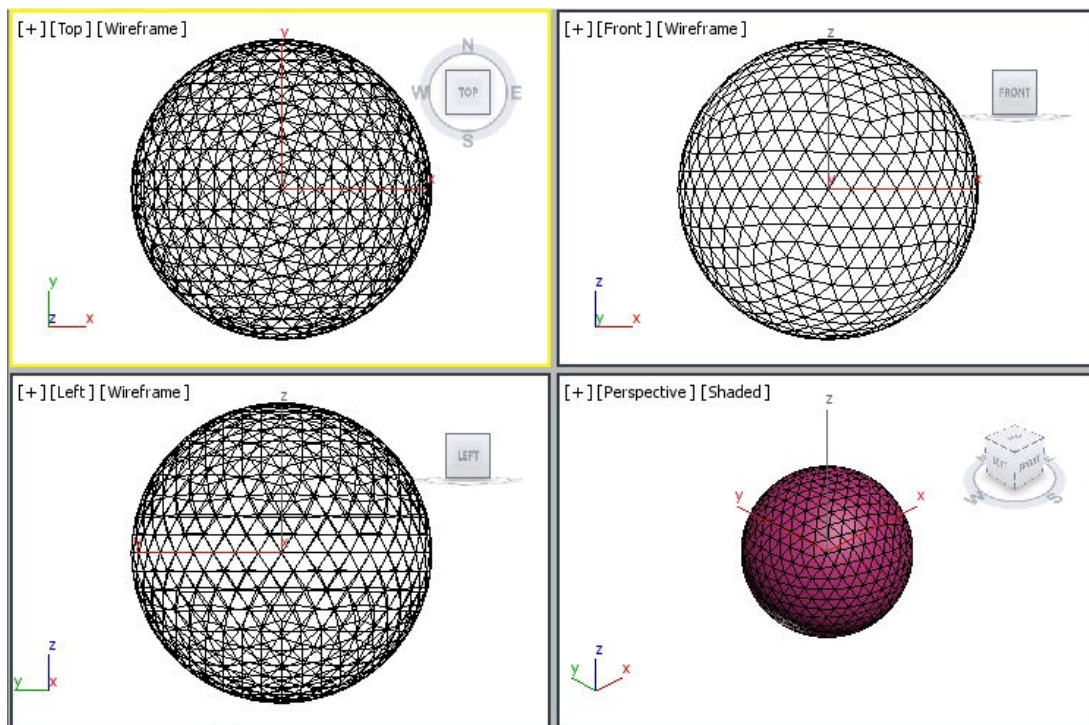

Figure 8-112 The geosphere displayed in viewports
4. Choose the **Zoom Extents All** tool to display the geosphere in viewports, as shown in Figure 8-112.